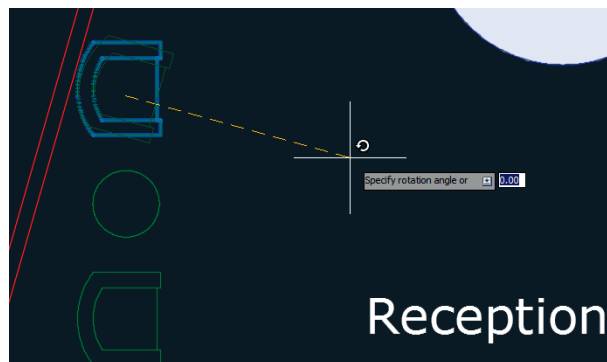

FIGURE 4.15 Rotating a chair by visually estimating the angle
2. Toggle off Ortho (and Polar Tracking if it is on) in the status bar. Move the cursor around the point, and observe that a rubber-band line connects the base point to your cursor and a ghosted image of the chair is superimposed over the original chair representation. Move the cursor until the rubber band aligns more or less perpendicularly to the wall behind the chair (see Figure 4.15) and click.